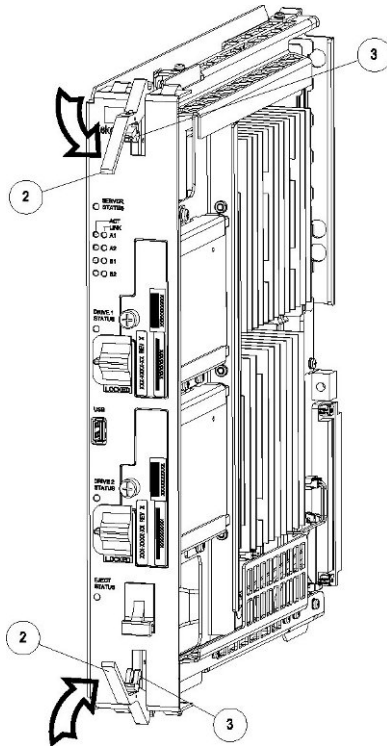

Figure 49: E5-APP-B Card Inject Levers
3. Push in the top and bottom inject/eject clamps (see Figure 49: E5-APP-B Card Inject Levers).